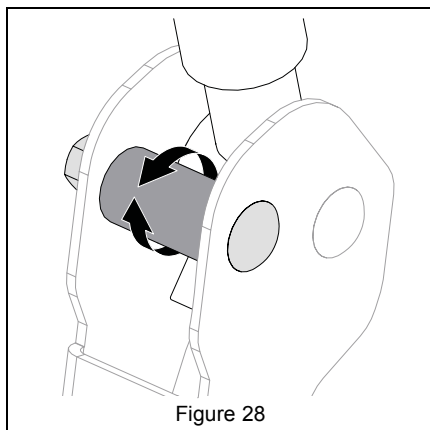

Figure 28
5. Turn eccentric spacer so levers are at the same height and have a 1.3 cm – 2.5 cm (1/2" – 1") gap between lever ends. See Figure 28.